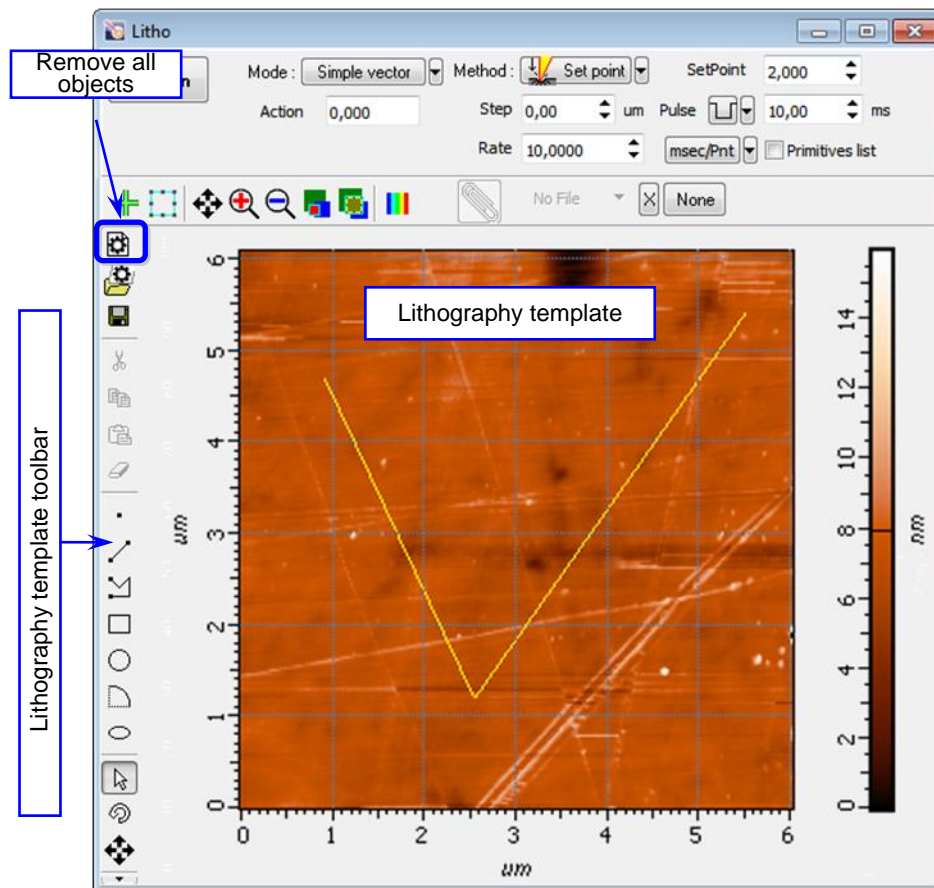

Fig. 12-17. An example of the template of vector lithography
1. Create a new lithography template. To this purpose, click the  button in the Toolbar of the Lithography template (Fig. 12-17). This will remove all objects created before. This step is required to prevent any object outside the selected region to appear in the final template.